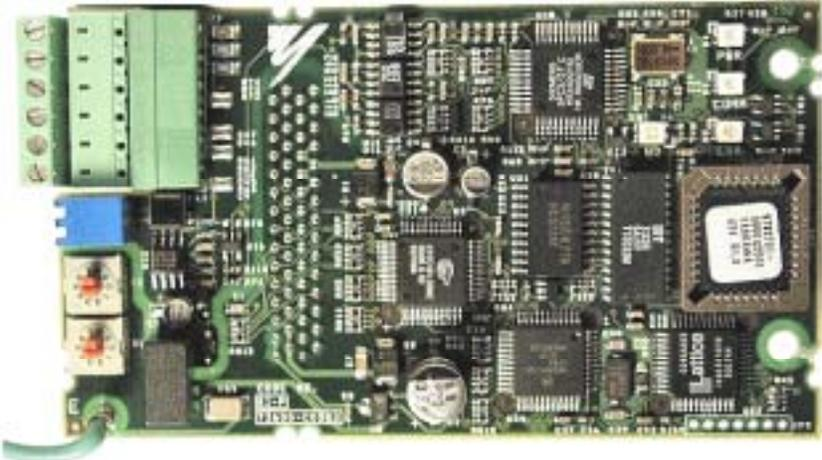

Figure 1.1 – PROFIBUS-DP Option
- 1:** Unpack the *PROFIBUS-DP Option* and verify that all components are present and undamaged. Refer to **Figure 1.1 – PROFIBUS-DP Option** and **Table 1.1 – Product Parts List**.